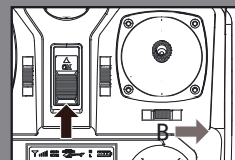

Figure.2
2. Install the blade protecting frame to every corner than lock screws (Figure 2).